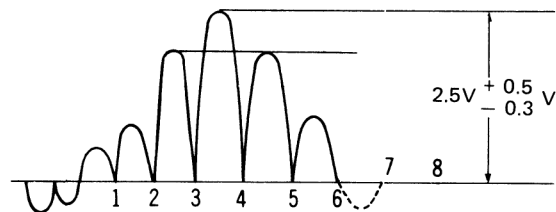

Figure 11
2. Confirm that amplitude of B-Y waveform is as in figure 11.